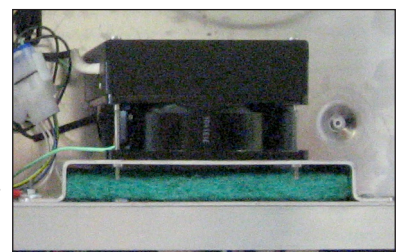

Figure 37: ISP Enclosure Fan/Heater Assembly
2. Using a Phillips screwdriver, remove the four screws holding the fan and heater in place. Refer to **Figure 37**.
2. Using a Phillips screwdriver, remove the four fan mounting bolts that secure the fan to the ISP enclosure. Refer to **Figure 37**.